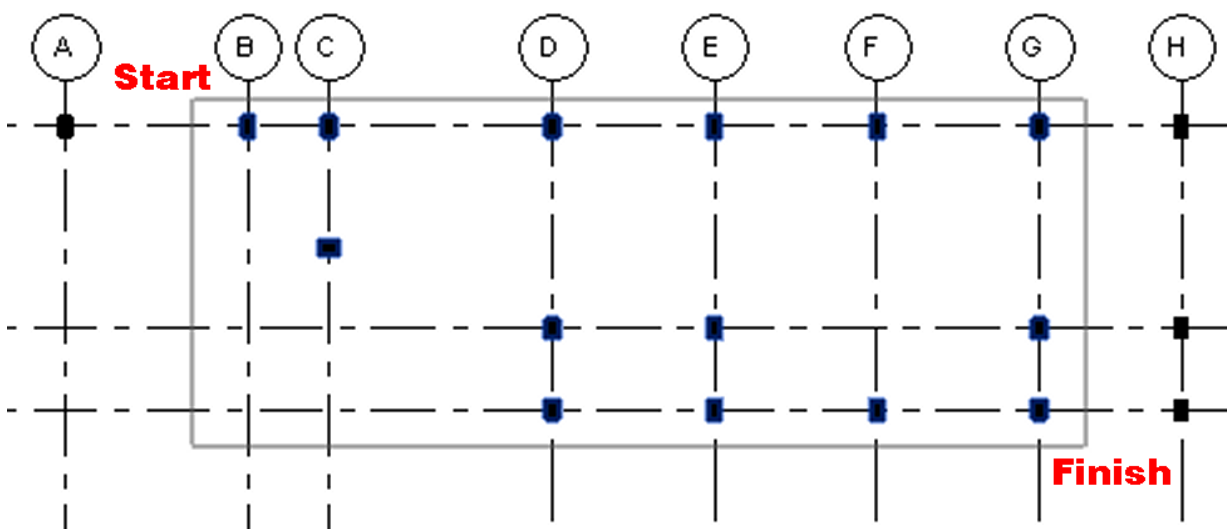

Fig. 2.4 – Selection box for Columns
4. Add a column anywhere on grid C between grid 7 and grid 8 (Fig 2.4).